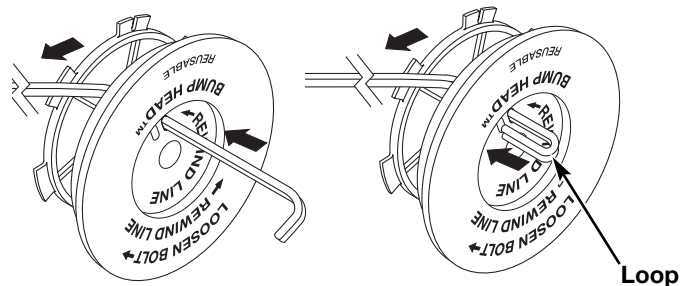

Fig. 15
**NOTE:** SplitLine™ can only be used with the inner reel with the slotted holes. Single line can be used on either type of inner reel. Use figure 15 to identify the inner reel you have.
6. Take approximately 10 feet (3 m) of new trimming line. Insert one end of the line through one of the two holes in the inner reel (Fig. 15). Pull the line through the inner reel until only about 4 inches is left out.